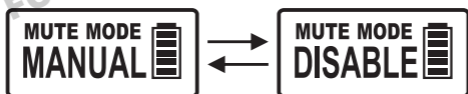

Fig. 12
6. MUTE MODE Setting, Fig. 12:
- (A) MUTE MODE can be changed to MANUAL or DISABLE.
- (B) Press MODE button to access MUTE MODE parameter. Press SET button, the parameters start flashing. Press SET button again, the parameter will change circularly. Press MODE button to save or the parameter saves automatically when flashing stops.
- (C) MANUAL mode indicates MUTE button can be muted.
- (D) DISABLE mode indicates MUTE button cannot be muted.